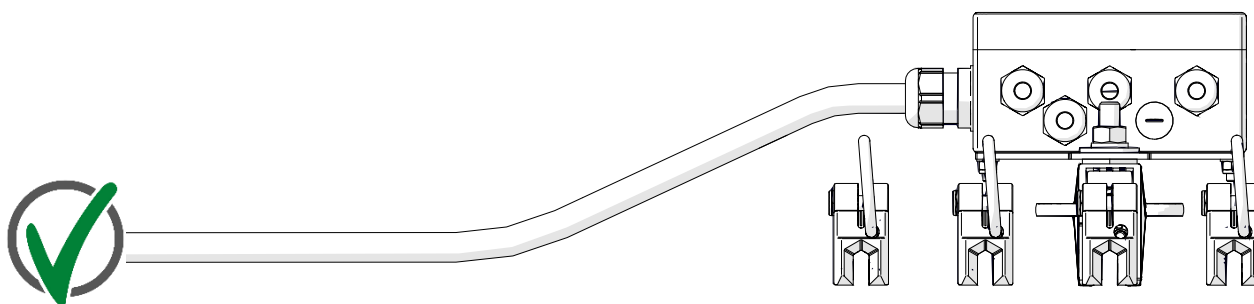

Fig. 60: Connecting cable of the terminal box comes from below (correct)
- To prevent the formation of water in the terminal box, the connecting cable must be led into the terminal box from below (see Fig. 60). If the sealing plug is not fitted correctly, water may enter into the terminal box through the sealing plug.